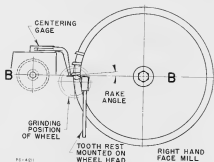

Figure 62A
13. Change the tooth rest assembly from the table and locate on wheel-head, using the offset tooth rest blade (Figures 62A and 62B)